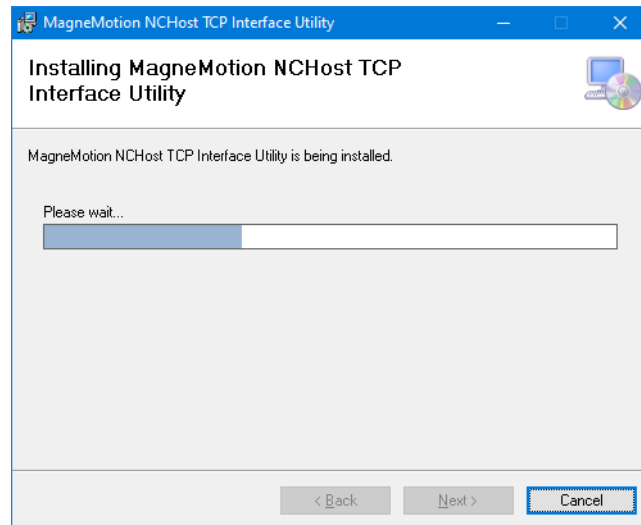
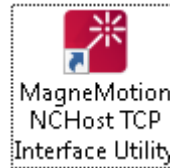

Figure 2-4: MagneMotion NCHost TCP Interface Utility Installation Progress
Figure 2-6: MagneMotion NCHost TCP Interface Utility Icon
*The **MagneMotion NCHost TCP Interface Utility** setup wizard installs the software as shown in Figure 2-4 and places an Icon on the desktop for access as shown in Figure 2-6.*
1. Select the **MagneMotion NCHost TCP Interface Utility** icon, which is shown in Figure 2-6, on the desktop.